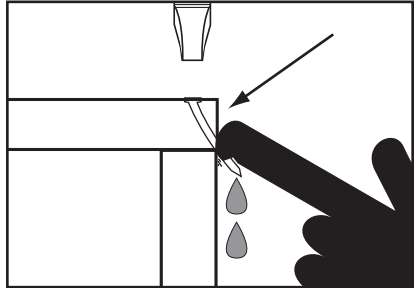

Figure 7. Example of nail deflection.
4. Before pulling the trigger, make sure your free hand and other body parts are positioned out of the way of a potential path of a nail in case of deflection (illustrated below in **Figure 7**).